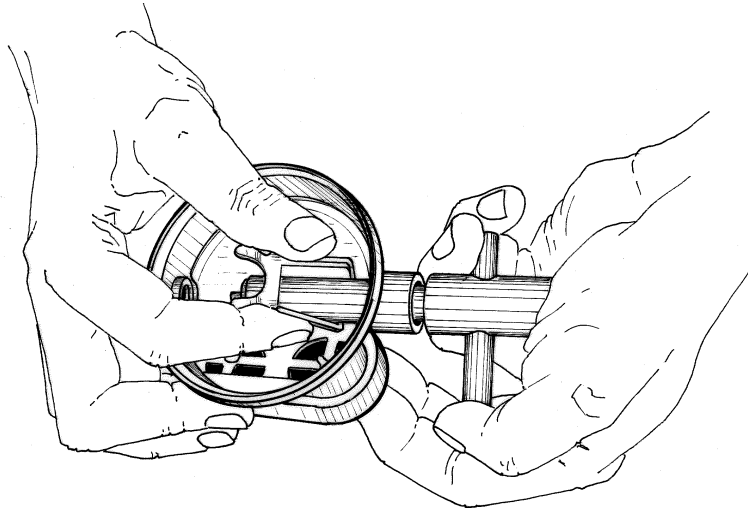

FIG. 6
- 6. Unscrew the swivel hose coupling and the retaining nut (19) through approximately one turn.
- 7. Hold the hose (23), the swivel coupling and the retaining nut (19) in place with one hand, and the 2nd stage with the other. (Fig. 6)